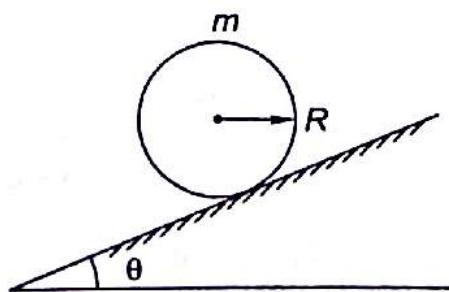

Fig. 17.14
- 17.1** A homogeneous cylinder of mass m and radius R is placed on inclined plane with angle of inclination θ . What should be the maximum angle θ , so that cylinder rolls without slipping? The coefficient of friction between cylinder and inclined plane is 0.12 (Fig. 17.14)